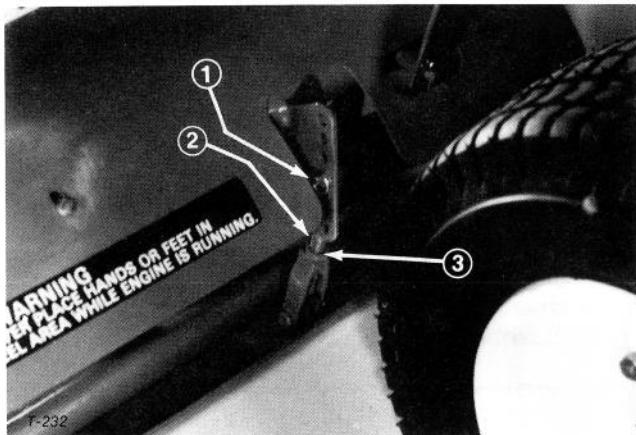

Figure 27
Height-of-Cut: Height of cut is adjustable from 1/2 to 2-1/4 in. (13 to 57 mm) (Fig. 27).
1. To set height-of-cut, remove hairpin cotter from links on each cutting unit and move links (Fig. 27).
3. Cutting units can be more finely adjusted to either level a unit, more closely match height setting with the other units or adjust to an intermediate setting. Loosen jam nut on links, remove hairpin cotter and remove link from hole (Fig. 27).
4. Turn link either in or out to achieve desired setting, install link into hole and tighten jam nut (Fig. 27).